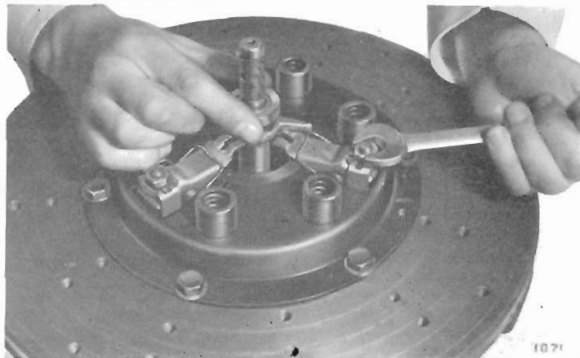
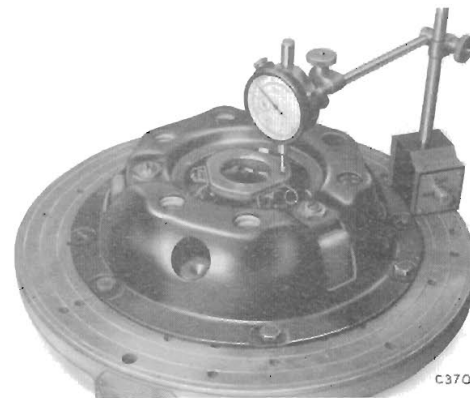

Fig. 19. Adjusting toggle height (Herald and Spitfire)
Fig. 23. Using a dial gauge to check run-out of release plate
Assemble the toggle levers (8), bridge pieces (10), lockplates (11) and nuts (12). Fit the gauge finger (4), Fig. 14, with adaptor No. 5 and adjust the nuts (12) until the gauge finger just contacts the ends of each lever (8), Fig. 19. Remove the gauge and stud, fit the operating lever and operate the clutch a few times. Refit the stud and gauge, re-check the lever height and adjust if necessary. When correctly adjusted, bend up the lock-plates (11) against the nuts (12). Fit the release plate (13) and secure it with the springs (9). Check the run-out of the release plate with a clock gauge as shown on Fig. 23. This must not exceed 0.015" (0.38 mm.). If satisfactory, remove the clutch from the baseplate.
Adjust the toggle height as described under "Adjustment" and fit the release plate (7) and springs (8). Check the run-out of the release plate with a clock gauge (Fig. 23). This must not exceed 0.015" (0.38 mm.). If satisfactory, remove the clutch from the baseplate.